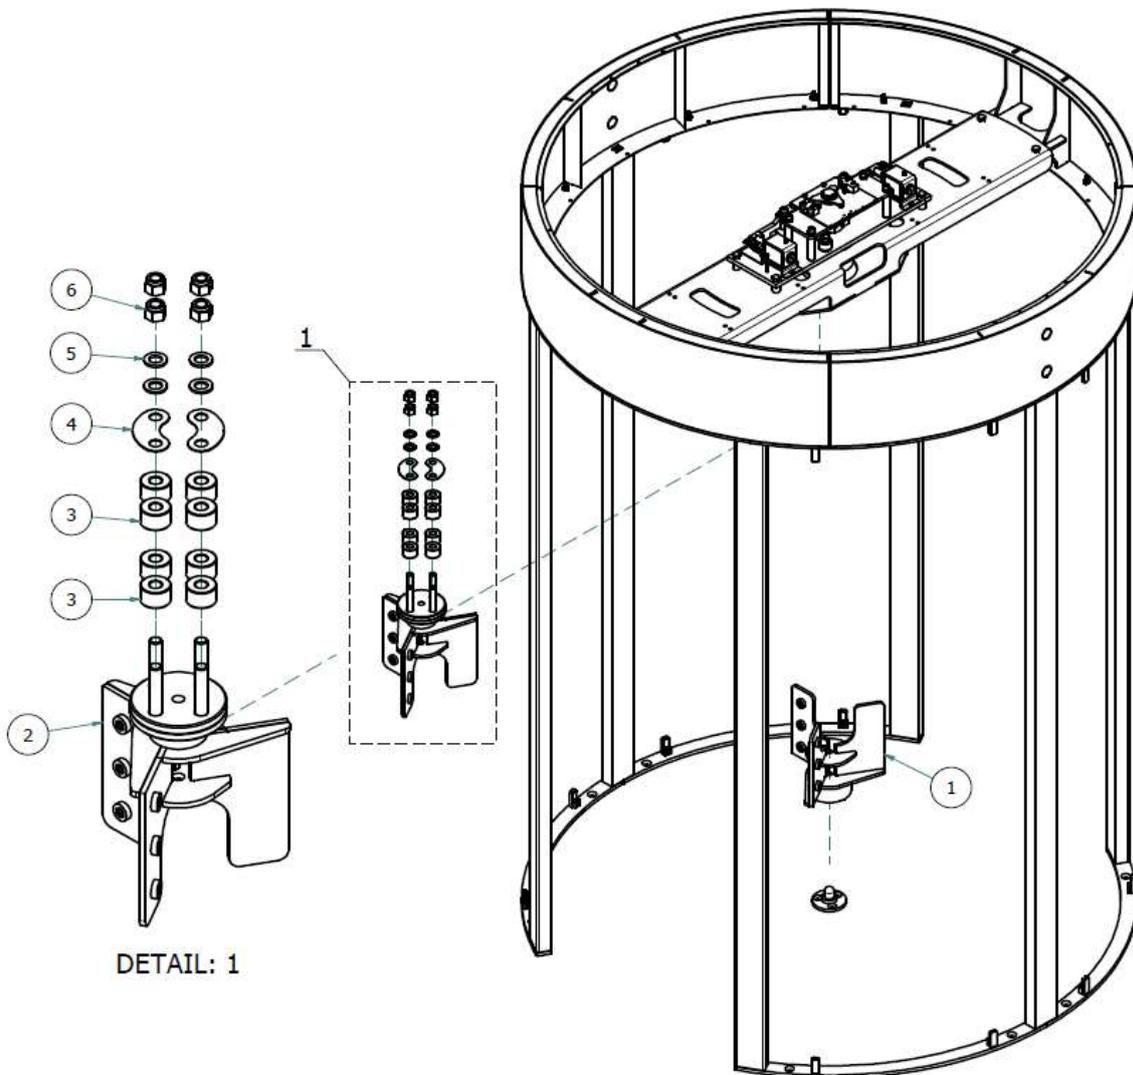
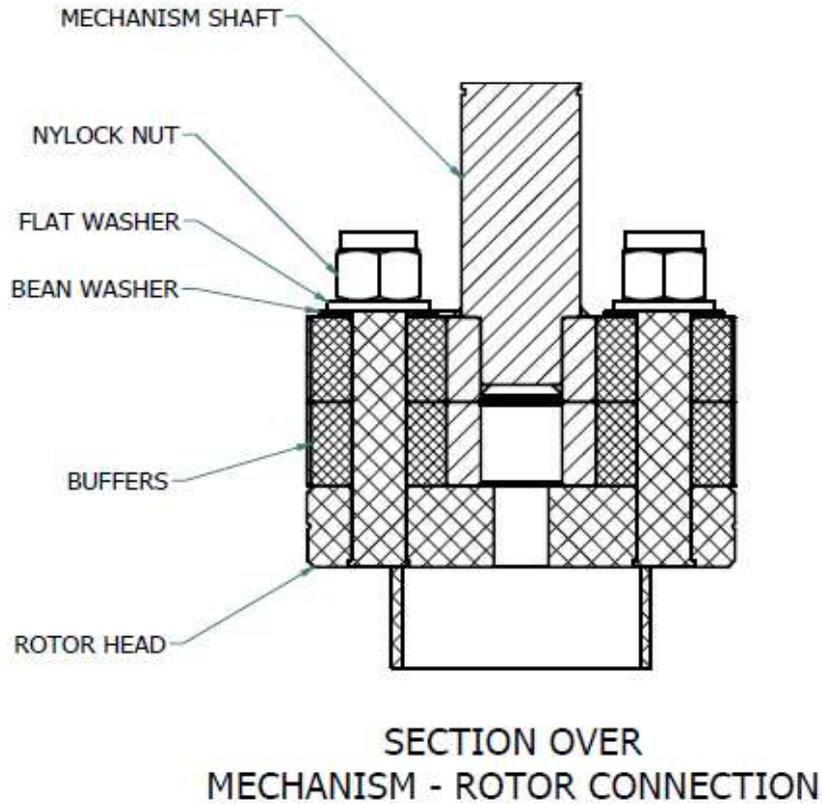

Figure 14: STEP 5 – Glass spider clamps assembly
Figure 15: Top spider assembly to mechanism shaft
- 5.19. Place the top spider, with the buffers, bean washers, flat washers and M16 nylock nuts on the bottom disk of the mechanism. See *Figure 14* and *Figure 15*.